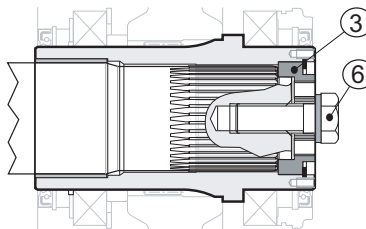

Fig. 19
unscrew the threaded rod nut (pos. 4) and take it out of its seat. Replace the rod (pos. 4) with screw (pos. 6), torquing it down fully to the torque value shown in the Table 4:Tightening torques (p. 19), using an intermediate threadlocker (see Fig. 19 (p. 27)).